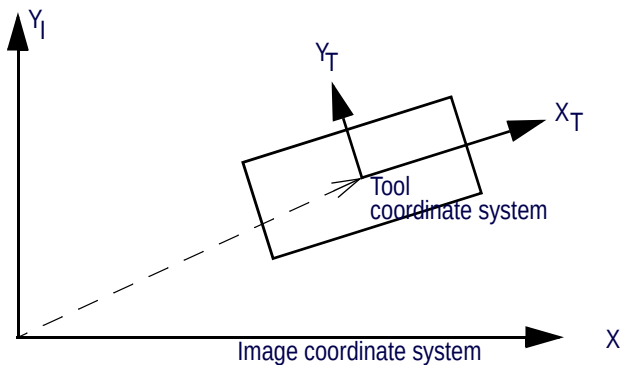

Figure 236 Image-Based Uncalibrated Mode: Relationship between Tool and Image Coordinate Systems
- **Positioning coordinate system:** In the Image-based Uncalibrated mode, the tool is positioned with respect to the Image coordinate system as shown in Figure 236.